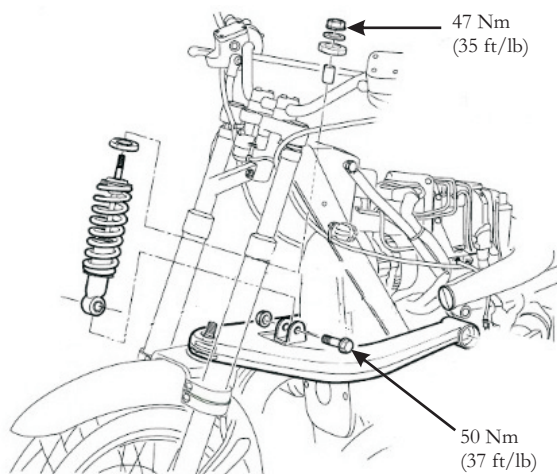

Figure 1
2. Remove the seat, then remove the fuel tank bolts and slide the tank back a few inches to facilitate getting to the top shock mount post/nut. There should be no need to disconnect any hoses or wires. If additional accessories are installed on your vehicle, please refer to their mounting instructions for removal to gain access to your shock. Remove the top nut and the bottom bolt, then remove the stock shock (see figure 1).